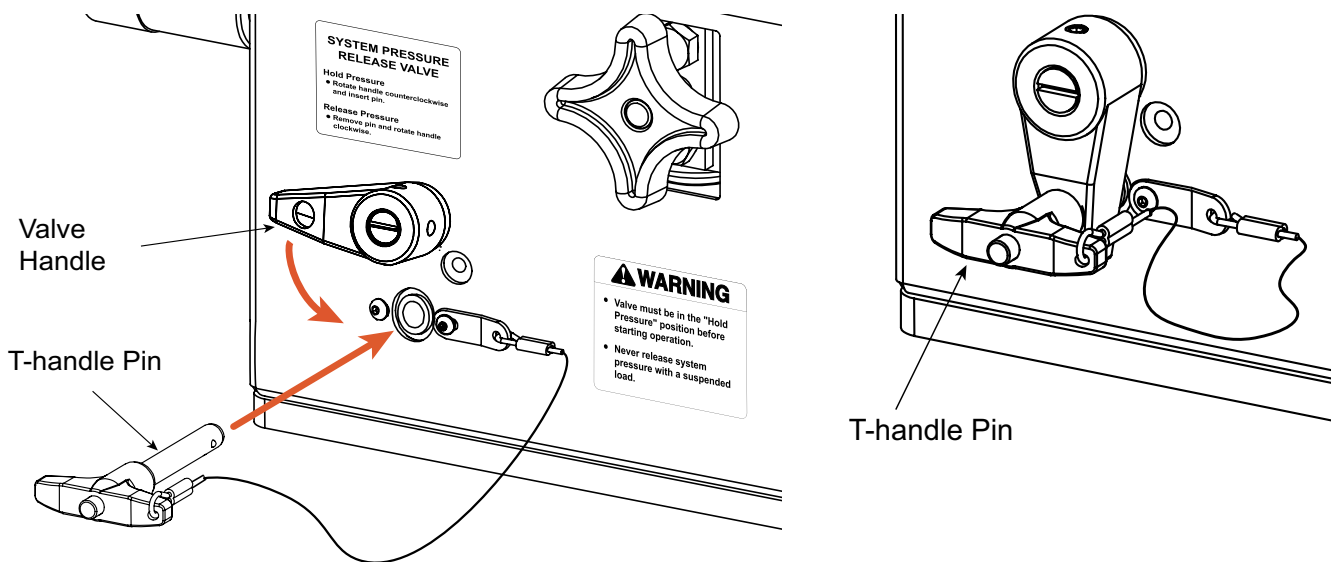

Fig. 19: System Pressure Release Valve
- B. To hold pressure, rotate the valve handle counterclockwise (CCW) and insert the pin (see figure 19).
- C. To release pressure, remove the pin and rotate the valve handle clockwise (CW) slowly.